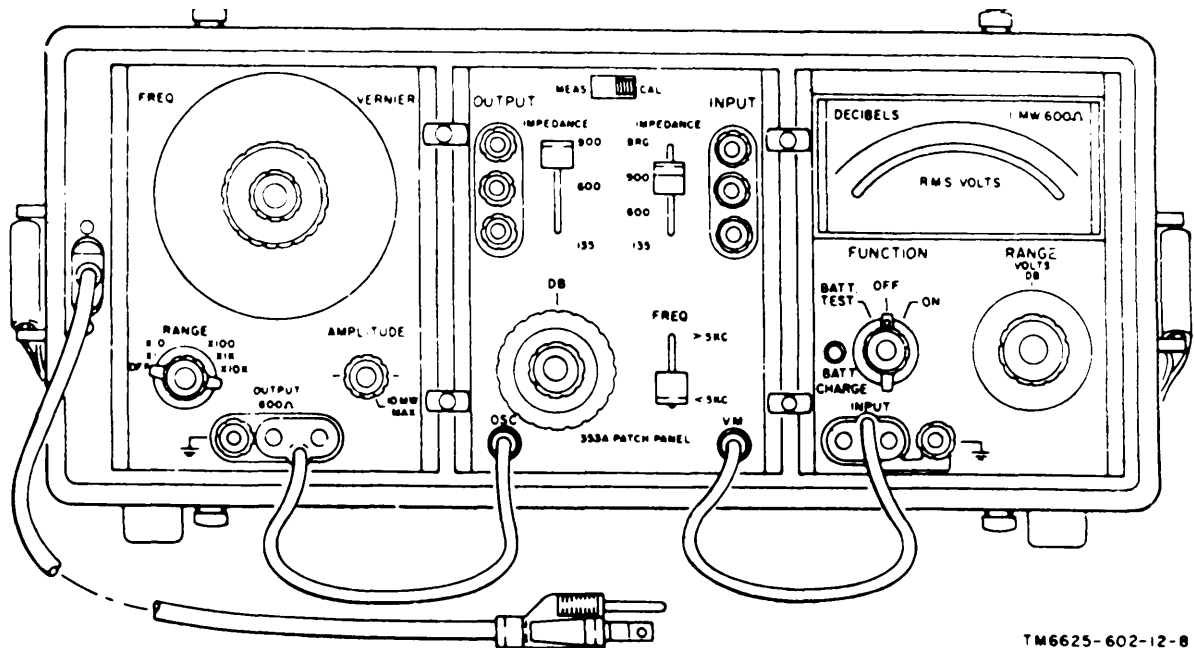

Figure 8. Test Set, Telephone AN/USM-181 (connection diagram).
c. The output of the oscillator and the input of the voltmeter are connected to the patch panel by the two patch cables (fig. 8). The voltmeter is adjusted to indicate the output of the patch panel. The input and output terminals of the patch panel are connected to the transmission line under test to measure insertion loss and frequency response, the voltmeter (fig. 9).
After the equipment has been unpacked and all components are present, make connections as showm in figure 8. The power cord is used only for ac operation or for charging the batteries, and need not be connected unless the battery voltages are low.